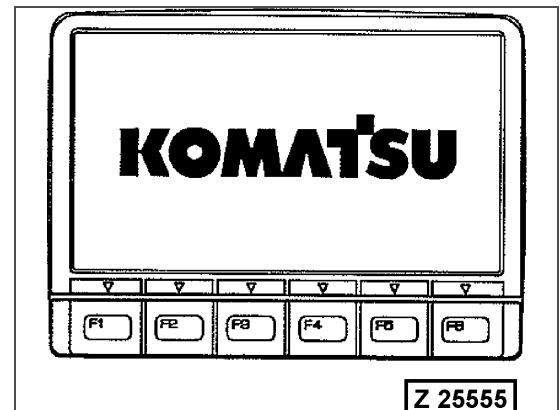

Fig. 3-111
When the main key switch (4), Fig. 3-110 is turned ON, the initialization screen (KOMATSU logo) Fig. 3-111 is displayed for approx. 3 seconds.